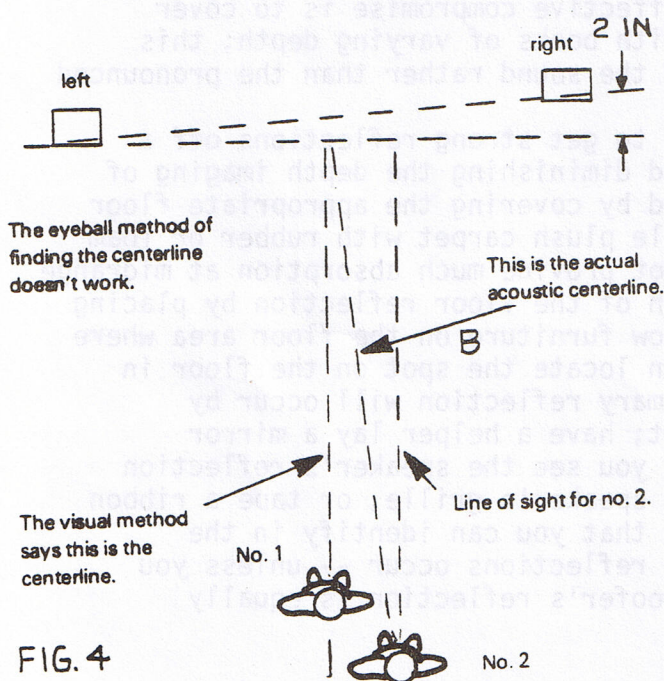

FIG. 4
Inspecting Fig. 4 shows us that if the right speaker were moved forward a mere 2 inches, the acoustic centerline at the listener location would shift more than a foot or so towards the visual centerline. A steel tape rule is an easy way to cause the visual and acoustic centerlines to coincide; and it will give you the correct listening location. Refer to fig. (1).